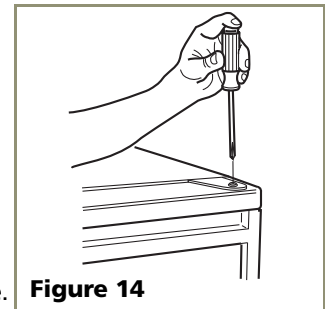

Figure 14
1. Remove top hinge screw pin (Phillips screwdriver, see **Figure 14**). Remove door by tilting forward and lifting off bottom hinge pin.